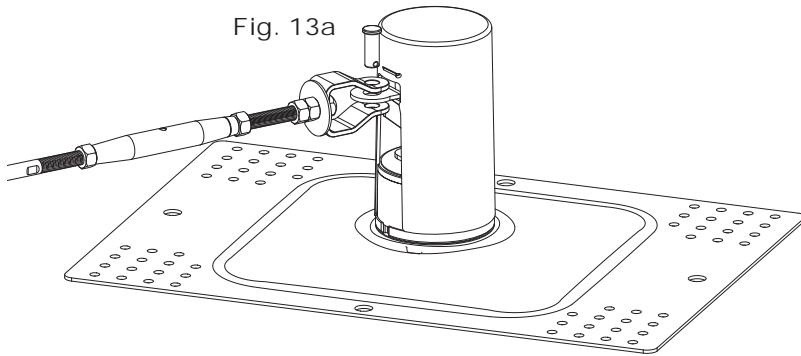

Fig. 13a
1. Attach the swage turnbuckle end fitting to the end roof post by aligning the clevis of the end fitting with the protruding roof post anchorage eye and installing the supplied shoulder pin (see Fig. 13a).